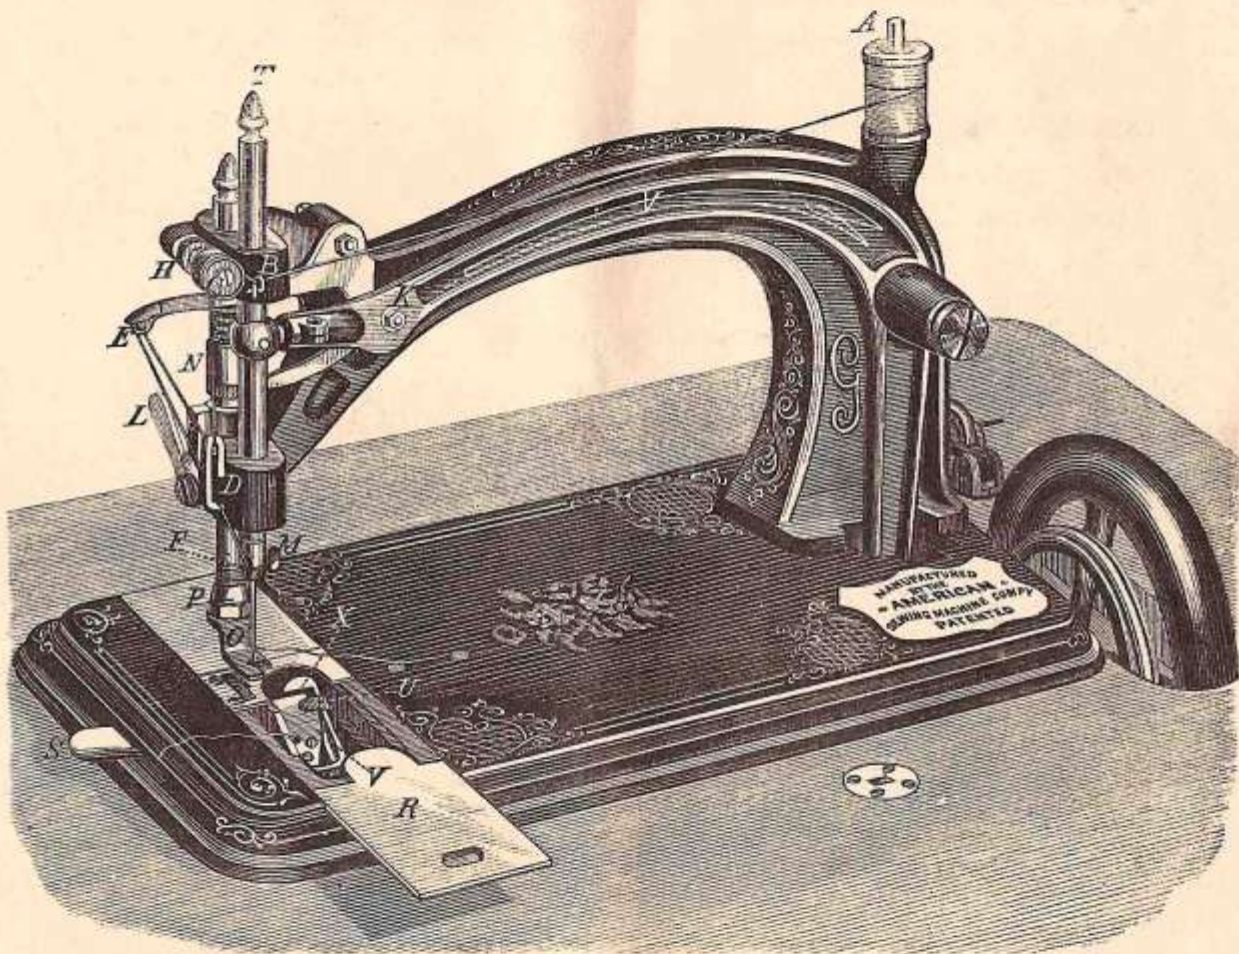

FIGURE 4.
Raise the **presser foot O** with **lever L** (as shown in Fig. 4.) Pull the **slide plate R** partly out and push from you **latch U**, then remove the shuttle from the machine and place the belt on **fly wheel A**.
Place the **needle** in the lower end of **needle-bar T** (Fig. 4,) as far up as it will go, with the **long groove** towards your left, and the eye running in direct line of the machine. Secure it by the **thumb-screw M**.
Place the **spool** on post **A** (Fig. 4), draw the thread into the **eyelet B**, then upwards and between the **tension plates C**. Double the thread and pass it through the **thread guide D**, from you. In the same manner slide it under **take-up hood** into the **eyelet hole E**. Then draw the end of the thread under **projecting point F** on lower end of **needle bar T**. Then through the eye of the needle from left to right, and leave a few inches of thread extending from the needle.
The **shuttle driver X** being on its extreme forward point, insert the **shuttle** with the point down and towards you in **race V** (Fig. 4.)
Press the thumb of the left hand on **regulator S**, (Figure 4,) push from you to **lengthen** the stitch, pull towards you to **shorten** the stitch.
Turn the **ratchet wheel H**, (Fig. 4,) down to increase and up to decrease the tension of the upper thread.
The take up roller **K**, (Fig. 4,) being moveable in the slot should be at the highest point for ordinary sewing, and at the lowest point when sewing heavy goods or using coarse or linen thread.
3. *Breaking of needle* is caused by pulling the goods when sewing, or by thick goods or heavy seams, when the pressure on presserfoot is too light. To remedy this, turn the nut N, (Fig. 4), towards you for increasing, and from you for decreasing the pressure.